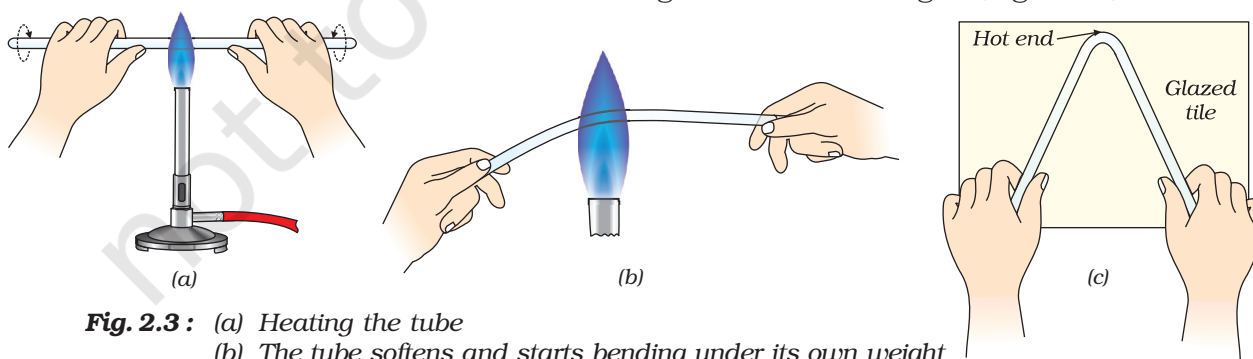
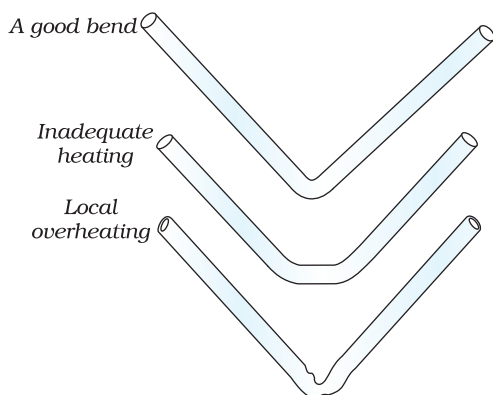

Fig. 2.3 : (a) Heating the tube
Fig. 2.4 : A glance of proper and improper bends
- Place the tube in the hottest zone of Bunsen burner flame and heat that portion from where it is to be bent (Fig. 2.3 a).
- While heating the tube in the flame keep it rotating slowly until the portion, which is to be bent, becomes red hot and soft and starts bending under its own weight. (Fig. 2.3 b).
- (iv) Remove the tube from the flame and bend it slowly at a desired angle by pressing it against a glazed tile to ensure the coplanarity of the bend (Fig. 2.3 c). Slow process of bending prevents flattening of glass tube (Fig. 2.4).
- (v) Cool it by placing on a glazed tile (Fig. 2.3 c).